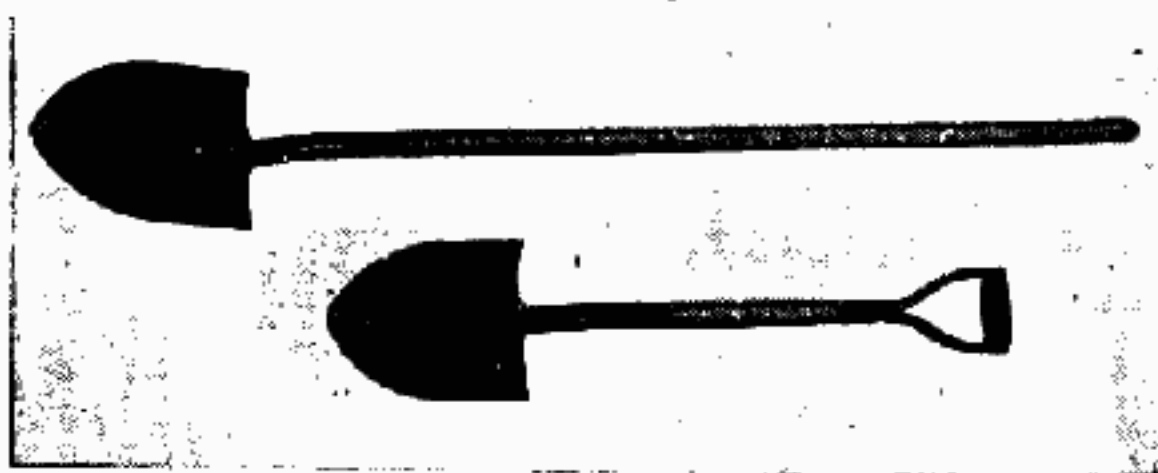

FIGURE 7.—Long-handled and D-handled shovels.
e. *Shovels* (see fig. 7).—You should be able to use the shovel with either a right- or left-hand swing. After filling it by one of two methods (fig. 8 ① or ②), press the handle down and back to free the shovelful from the rest of the material. Then hold the handle down while raising the weight of the full shovel with the other hand. In casting, allow the handle to slide through the lower hand in the most convenient manner. Do not use a shovel as a pry.